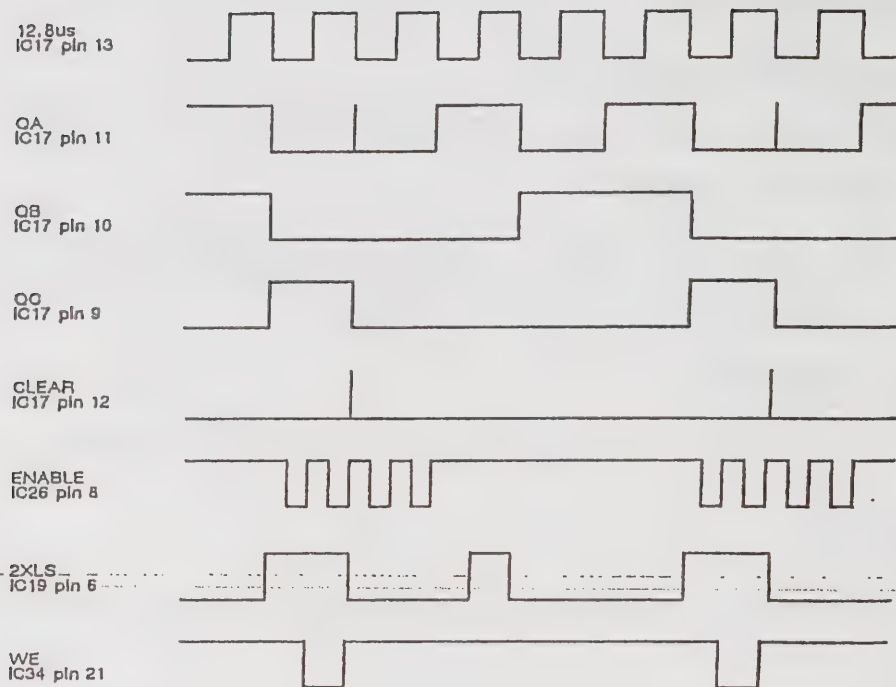

Fig. 5-3 Board AB3/2 rows counters timing
- (2) Check the operation of the rows counters and associated circuits as shown in Fig. 5-3.